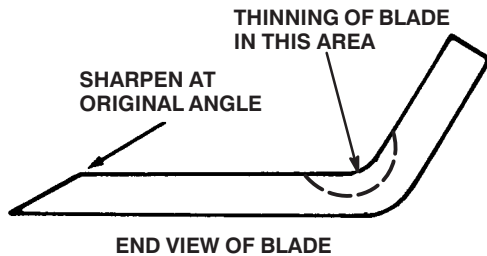

Figure 25
5. Using a file, sharpen cutting edge at both ends of the blade (Fig. 25).